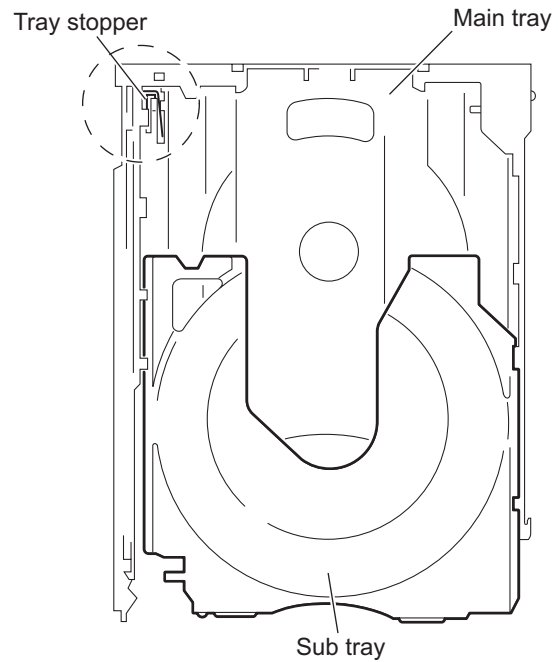

Fig.41
- (6) After clearing away the disc, insert the sub tray into the main tray. (See Fig.41.)
When reattaching the sub tray, move the tray stopper on the bottom of the main tray in the direction of the arrow to lock the sub tray certainly. (See Figs.41 and 42.)